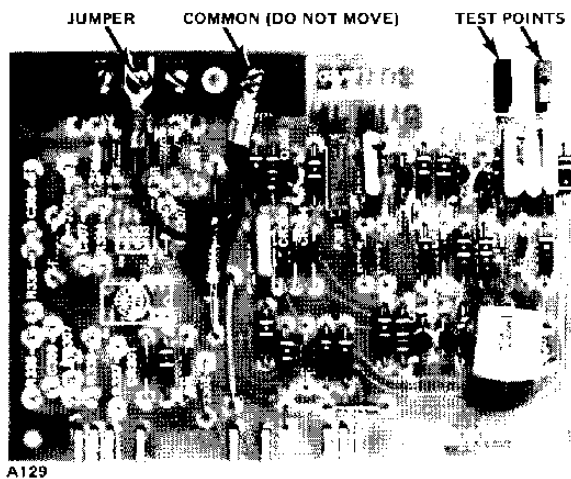

Figure 5—Integrator and Comparator Board
**Integrator and Comparator - Board No. 2**—The integrator and comparator board (Figure 5) provides the circuitry to perform amplification and integration of the detector signal and contains the sensitivity selection terminal block (see "Installation" section).